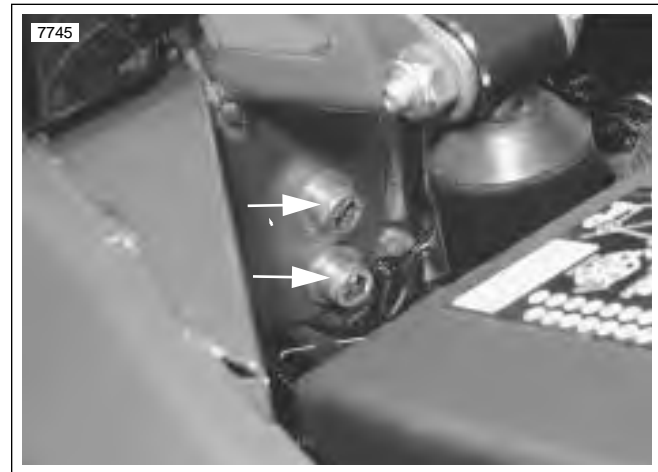

Figure 2-122. Frame-to-Isolator Bolts
6. See Figure 2-122. Remove two allen bolts connecting frame to isolator.
3. See Figure 2-122. Apply LOCTITE 272 (Red) to the two frame-to-isolator bolts. Tighten bolts to 30-33 ft-lbs (41-45 Nm).